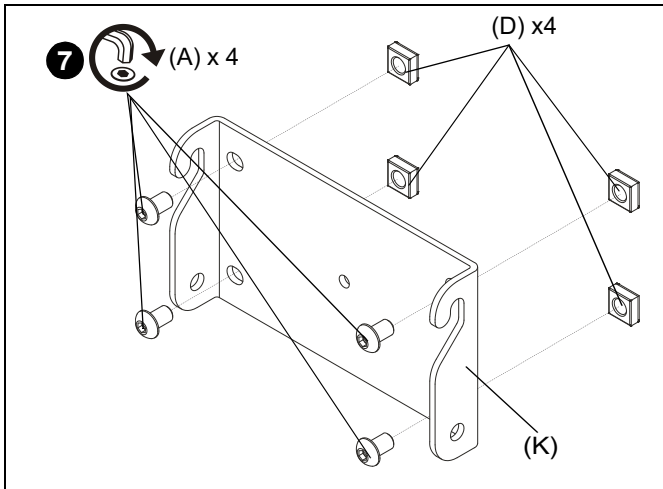

Figure 5
7. Use four 5/16-18 x 1/2" button head cap screws (A) to connect four square nuts (D) to quick connect bracket (K). (See Figure 5)